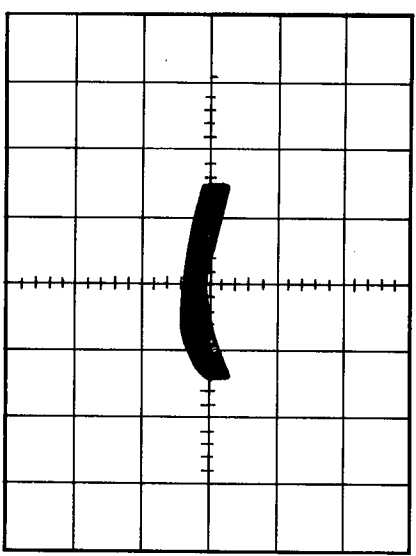

Figure 7. Residual Output of Analyzer, Rated Distortion at 2000 Hz
6. Measure the total harmonic distortion with the analyzer and verify that it is less than 0.1%. See Figure 7.